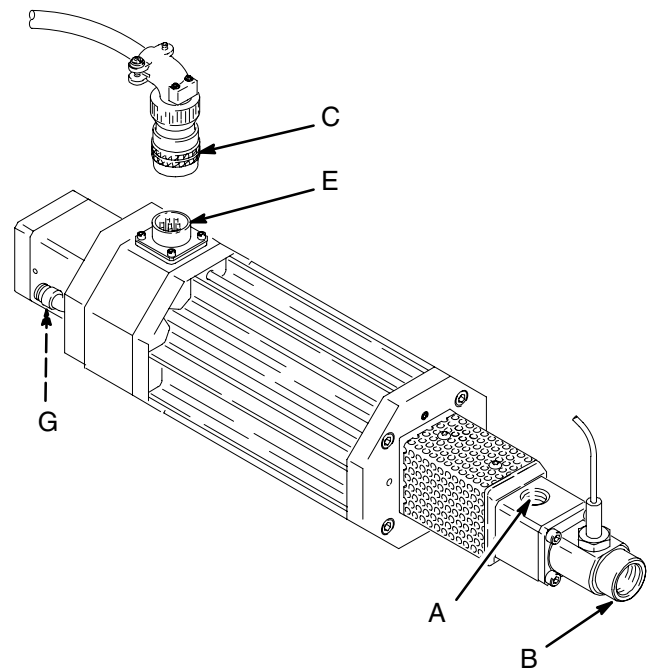

Fig. 2
2. Connect the fluid supply line to the 1/4–14 npt fluid inlet (A). See Fig. 2.
3. Connect a fluid line between the 1/4–14 npt fluid outlet (B) and the dispensing device.
4. Connect the electrical cable (C) to the Metering Valve connector (E).
5. Connect a 0.25 inch (6.35 mm) O.D. air line between the closer air inlet (G) and the closer actuating air valve.
2. Disconnect the electrical cable (C) from the Metering Valve connector (E). See Fig. 2, page 4.